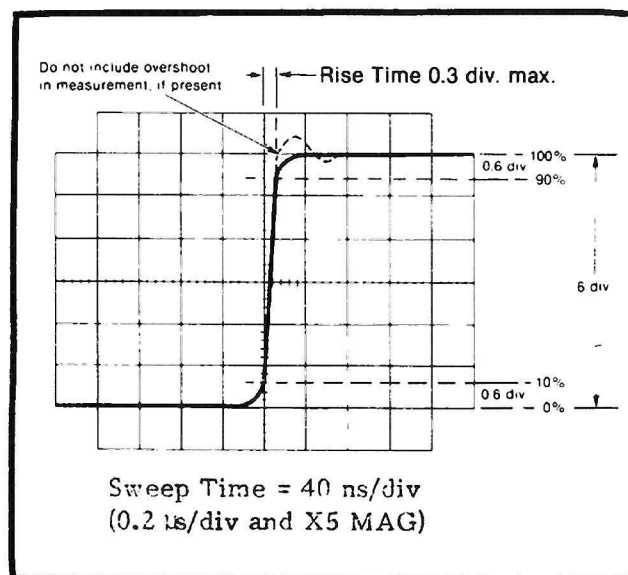

Fig. 28. Rise Time Measurement.
4. Locate 10% and 90% amplitude points. The time (horizontal) between 10 and 90% should be 12 ns or less (3 mm) as shown is Fig. 28.